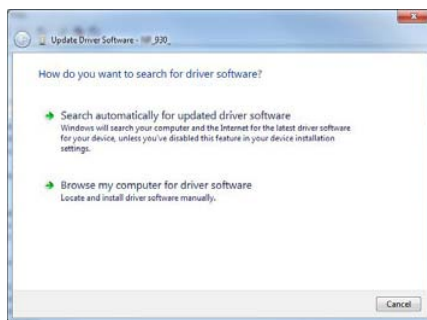

Figure 37: Update Driver Software Wizard
- Choose the option "Browse my computer for driver software" (see Figure 37).